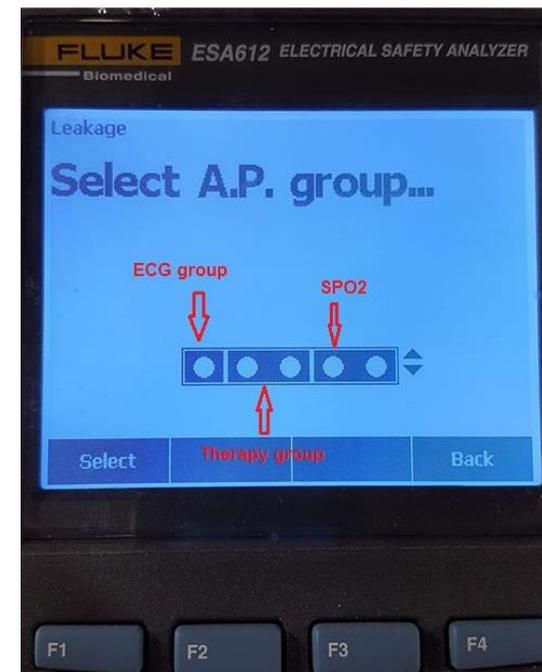

Figure 1.60 D.A.P Leakage Test Setup
- Press the **UP/DOWN** arrows to select the appropriate A.P. groups as shown in Figure 1.60.